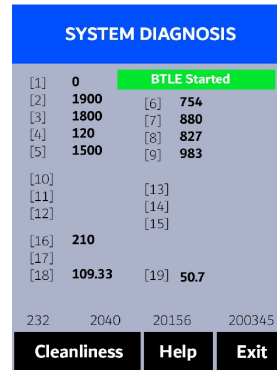

Figure 50.
Press **Diagnosis** (<) to launch the **SYSTEM DIAGNOSIS** screen where raw measurement data are displayed (Figure 50). The information has no use for normal operation, but instead is used for device troubleshooting. Provide an image of both the **DEVICE INFORMATION** screen and the **SYSTEM DIAGNOSIS** screen when you contact Pyxis ([service@pyxis-lab.com](mailto:service@pyxis-lab.com)) for troubleshooting your device or call +1 (866) 203-8397.
4. Allow 5–10 seconds for the message in the top-right corner of the display change from **Starting BTLE...** to **BTLE Started** (Figure 50).